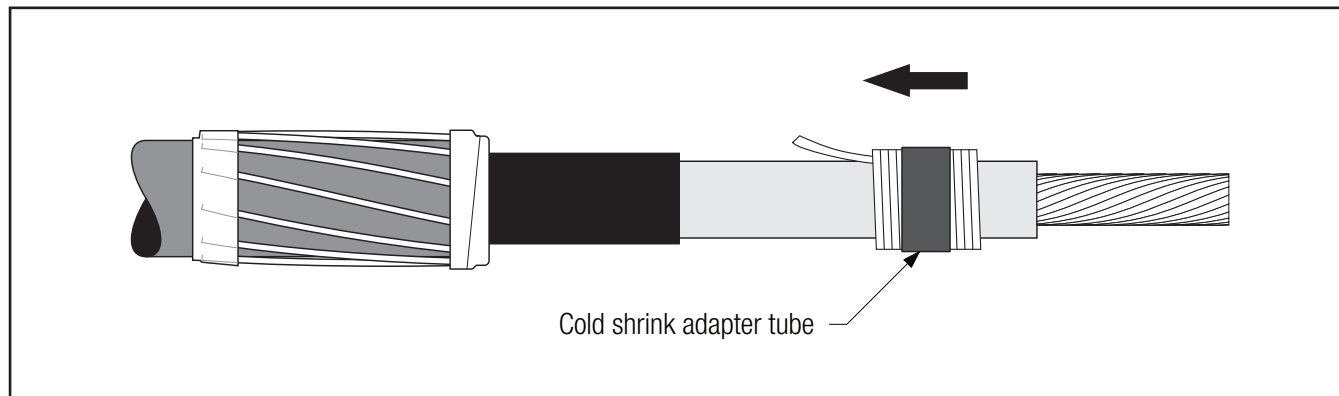

Figure 9
- 3.4 **For 500 kcmil copper connectors, or connectors with an O.D. between 0.80" - 1.08" (20,3 - 27,4 mm):** Park cold shrink adapter tube on cable insulation (Figure 9).